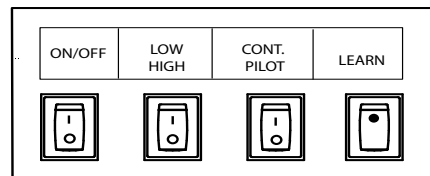

Fig. 39 Control panel
1. To **LEARN** (pair) the remote transmitter to the control module, press and release the LEARN button (switch) in the control box. See Fig. 39. You will hear single audible beep indicating the module is ready to learn the transmitter security code. Press any button on the transmitter within 60 seconds. The code is accepted when you hear 4 short beeps in rapid succession. Security codes will be retained in memory indefinitely if power is removed. **Note:** Control module accepts a total of three (3) wireless transmitters.